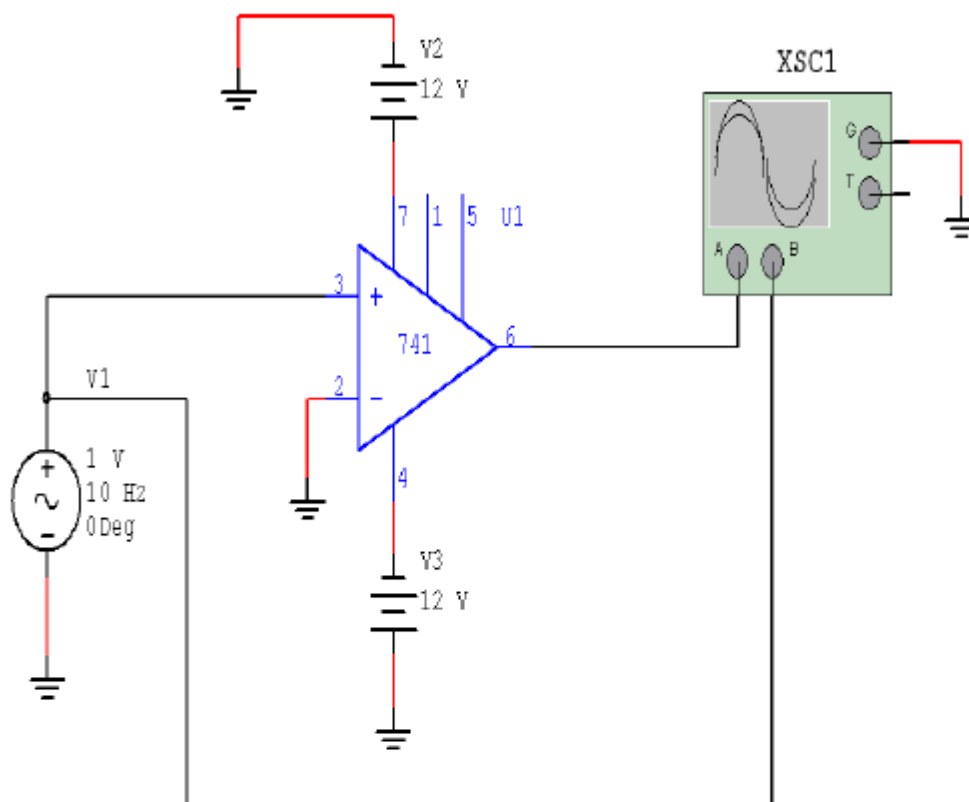

Fig.26 Comparator Operational Amplifier
- Construct the circuit shown in Fig.26.